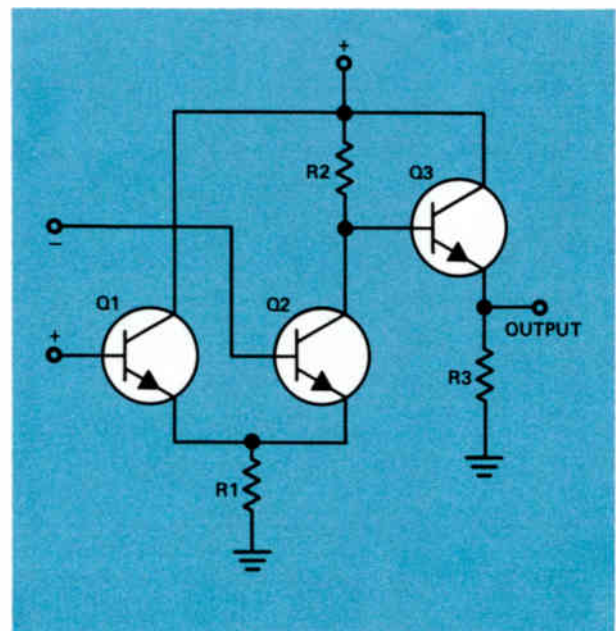

Figure 5. A differential amplifier and an emitter-follower combination forming an operational amplifier.
Figure 5 is a diagram of a differential amplifier and an emitter follower.
- 5 What is the meaning of the + and - signs on the leads going to the base of Q1 and Q2 in Fig.5?
- 6 What type of circuit is used in Q3 of Fig.5?